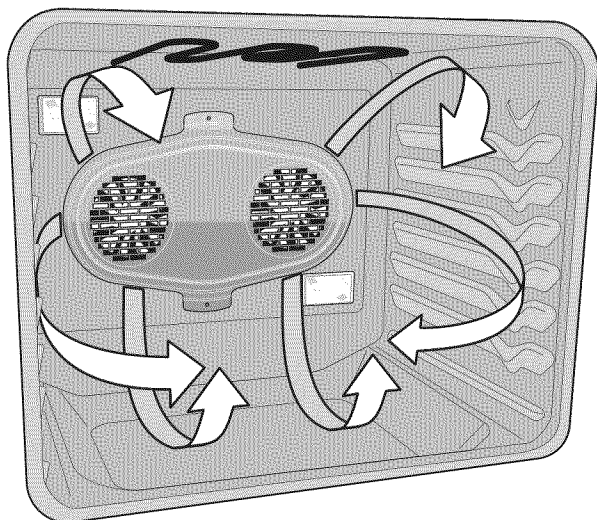

Figure 24: Air movement using convection
- When using two oven racks, place in positions 2 and 5 (See Figure 24). When using three oven racks, place in positions 2, 4, and 7 (use offset rack only in position 7).